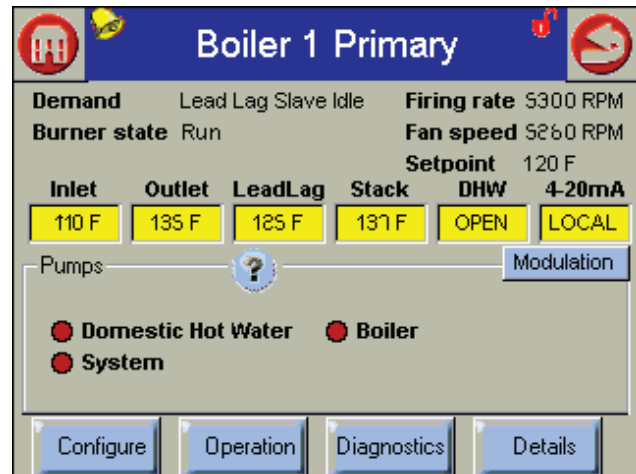

Fig. 126 – Status Summary Screen
2. Next the Status Summary page will appear. See Fig. 126.